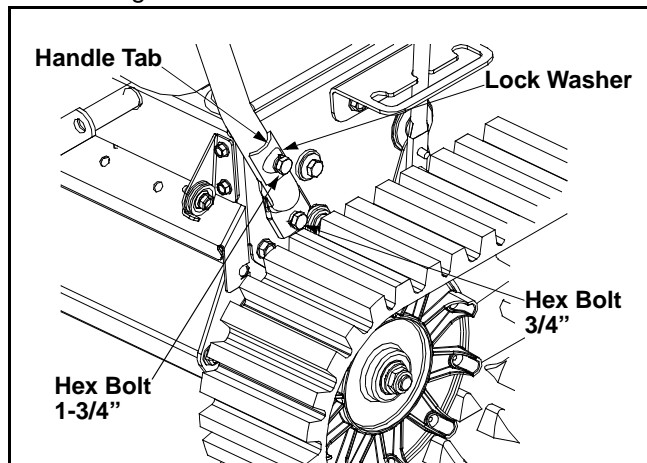

Figure 1
- Place right handle in position so the flat side of the handle is against the snow thrower. Secure bottom hole in handle to snow thrower using hex bolt 3/4" long and lock washer. Do not tighten at this time. See Figure 1.